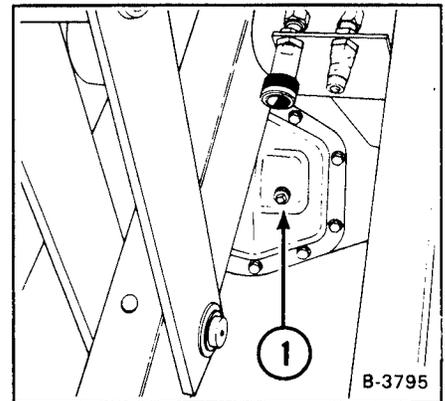
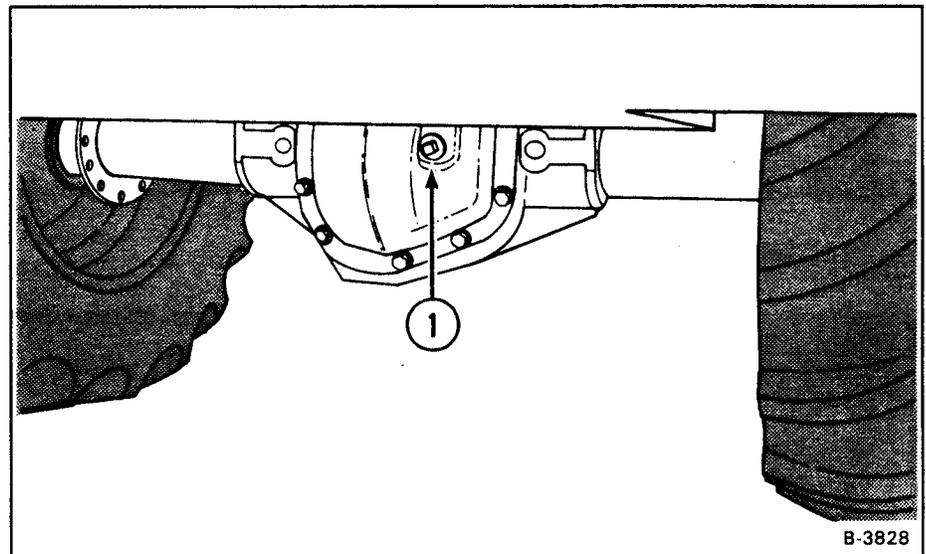

Fig. 1-37 Front Axle Check Plug
Fig. 1-38 Rear Axle Check Plug
- (1) Put the loader on a level surface lower the lift arms and stop the engine.
- (2) Remove the check plug on the axle cover (Fig. 1-37 or Fig. 1-38, Item 1).
- (3) If the oil level is low, add oil through the check plug hole until the oil level is level with the hole.